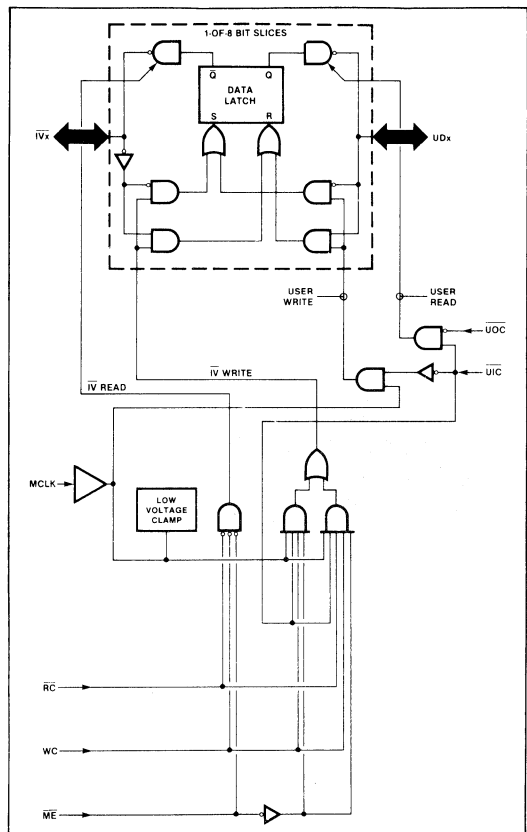

Figure 1. Logic Diagram for 8X371 I/O Port
compatible busses. Typically, the 8X371 is used with the 8X305 MicroController and its associated Interface Vector (IV) bus; however, it can also be used with the 8X300 MicroController or an equivalent microprocessor. The 8X371 is functionally the same and pin-for-pin compatible with the older 8T31/8X31 but features improved performance and increased drive current. As shown in the logic diagram of Figure 1, the 8X371 consists of eight identical data latches—bits 0 through 7. The latches are accessed from either of two 8-bit busses—the MicroController (IV bus) and the user data (UD bus). Separate controls are provided for each bus and both busses operate independently, except when both attempt to input data at the same time; in such situations, the user bus always has priority. A Master Enable ( $\overline{ME}$ ) input is available for additional control over the IV bus. The data latches are transparent, in that, while either bus is enabled for input, all input-data transitions are propagated to the other bus, if enabled for output.